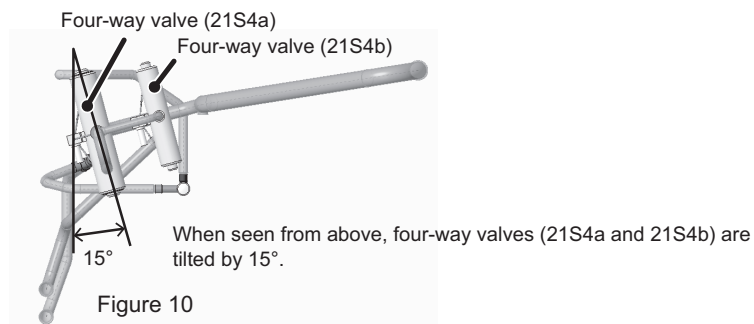

Figure 10
- (10A) Mount a new four-way valve (21S4a). Figure 10 shows how to position a new four-way valve.